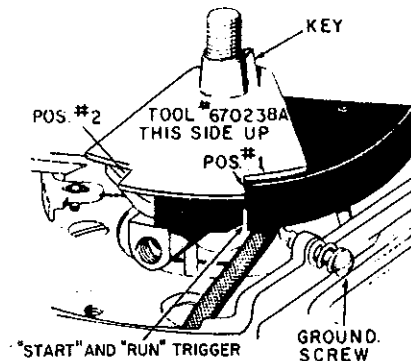

Figure 39
- D. Without disturbing the BTDC piston position set in step C, move the control lever counter-clockwise until the "START" and "RUN" trigger aligns with the timing tool (670238A) notch marked "No. 1." Hold this position. (See Figure 39.)